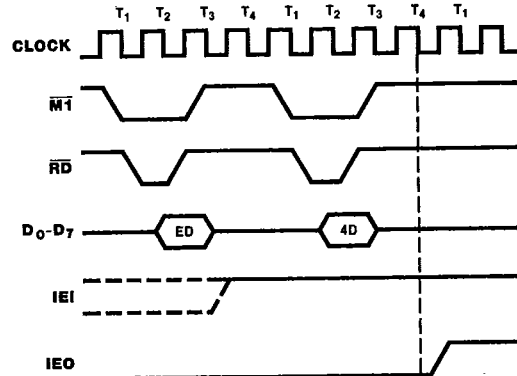

Figure 8. Return from Interrupt Cycle
**Return From Interrupt Cycle.** (Figure 8) Normally, the Z80 CPU issues a RETI (Return From Interrupt) instruction at the end of an interrupt service routine. RETI is a 2-byte opcode (ED-4D) that resets the interrupt-under-service latch to terminate the interrupt that has just been processed.